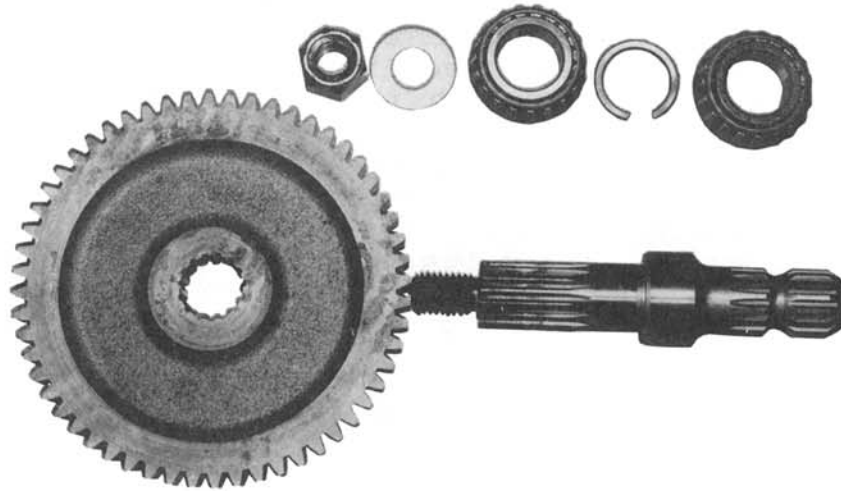

FIGURE 28
3.4 Inspection and Repair of #10 Shaft (PTO Shaft). See Figure 28.